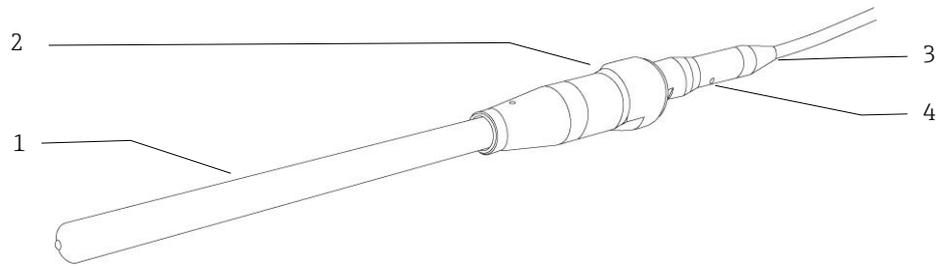

Figure 2: Non-flanged configuration of the Rxn-40 probe
- **Integrated stainless steel fiber connection shell option (Figures 2, 3 and 4 below):** The indicator is located on the fiber connection shell. When there is potential for the laser to be energized, the indicator light is illuminated.